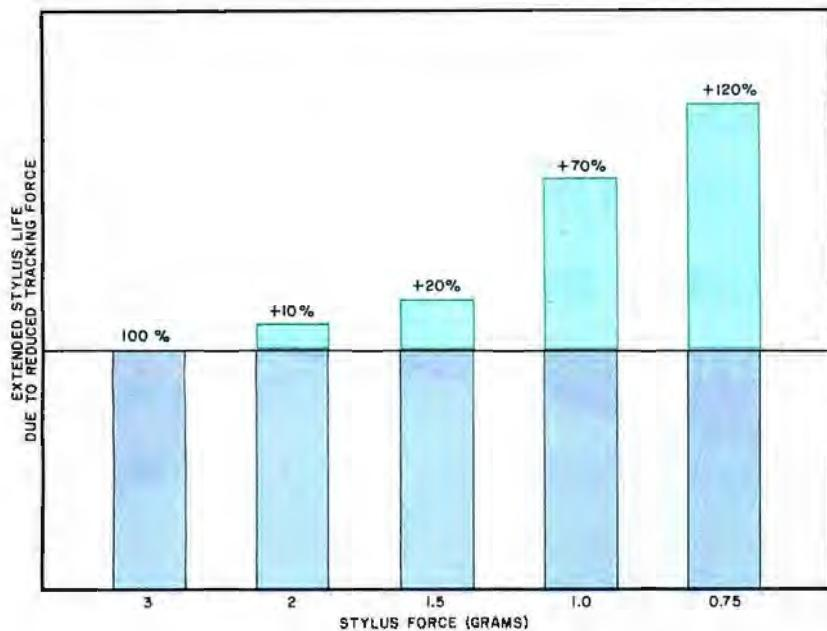

Fig. 2. Shure's studies suggest that stylus forces of 1.5 grams are best for reduced stylus wear.
Getting Worn. The perennial questions of consumers as to how long their stylus or their records can be expected to last remain unanswered. However, there are some general conclusions that can be drawn at this time. (1) According to Shure, stylus wear is closely related to tracking force, no matter what the configuration of the stylus (conical, elliptical, Shibata, etc.). The bar graph in Fig. 2 illustrates this, and shows why Shure recommends a maximum of 1.5 grams on tracking force. (2) Playing the same record over and over for a given number of hours is likely to result in more stylus